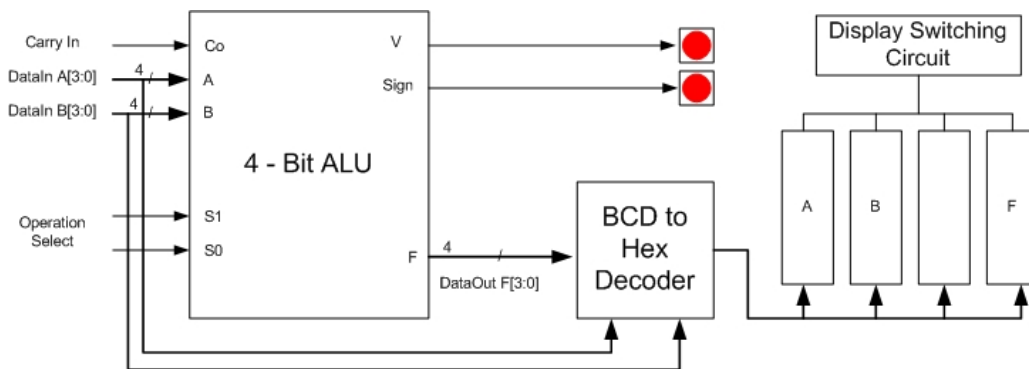

Figure 10.3: Overall System, Including the 4-Bit AU and Display Units.
11. Import the *multiplexed seven-segment display* macro you built earlier and connect the outputs of the register A to the most left display and the output of register B to the second left display. Connect the outputs of the adder to the right most display as in Figure 10.3.